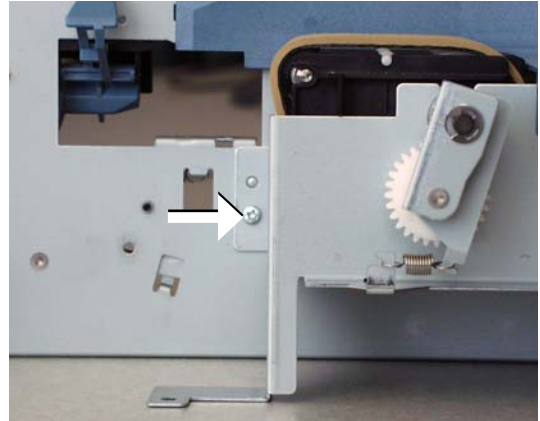

Figure 5-111 Screw Removal, Left
7. Remove three screws as shown in Figures 5-111 and 5-112, right, and detach roller plate.